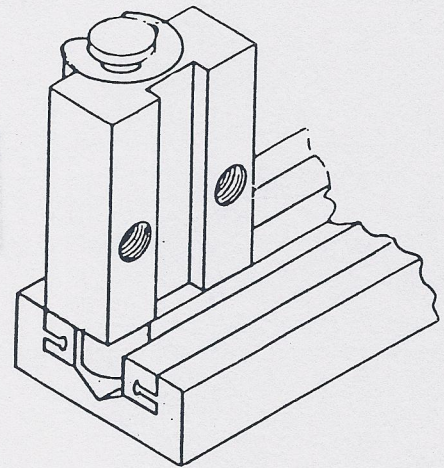

Fig. 40
At the opposite end of the upper door carrier install the ball catch (7) assembly so that it aligns with the active leaf ball catch cutout. Secure the set screws in the upper carrier ball catch portion and latch the active leaf(s) closed. NOTE: It may be necessary (because of inadequate vertical door clearance) to adjust (see page 5) the carriage wheels prior to hanging the door(s). Position the active leaf(s) for leveling. Release the bottom guide pin(s) (see Fig. 40) into the threshold/guide track.